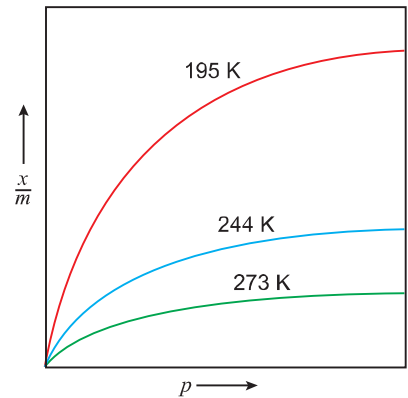

Fig. 5.1: Adsorption isotherm
7. **Freundlich Adsorption Isotherm:** It gives the relationship between magnitude of adsorption ( $\frac{x}{m}$ ) and pressure at a constant temperature (Fig. 5.1). It can be expressed as